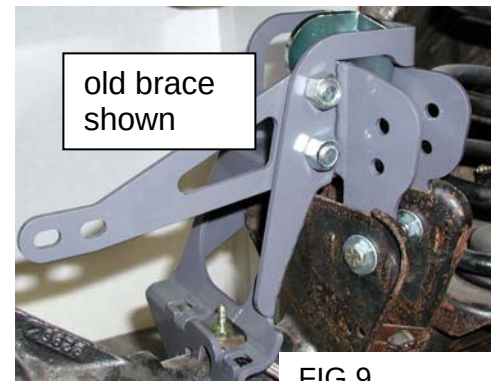

FIG 9
Step 7: Install Tower Brace. The remaining bracket in the kit is used only with Nth° Suspensions or the Nth14000: ShortArm Handling Improvement Kit – if your rear upper control arms are still attached to the original axle brackets, you will not be able to use this bracket. Position the bracket on the front of the main bracket and loose-assemble the brace to the tower with the two 1/2"x1.0"L bolts, nuts and washers. Add a 3/8" bolt, two washers, and locknut to the hole that lines up with the inboard side of the stock LRUCA tower, but again only 'loose assemble' them for now as shown in **figure 9** (shows old brace version).